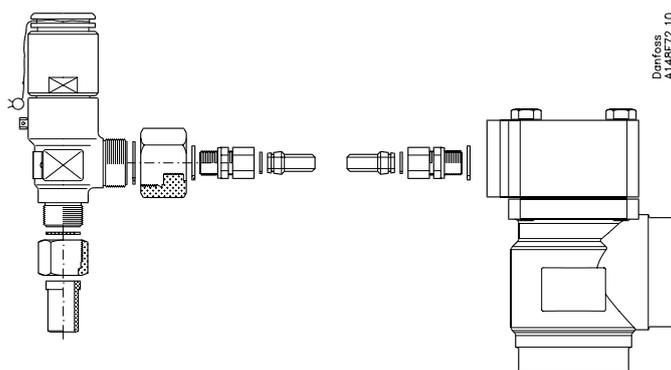

Fig. 5
When the spindle is turned counter clockwise (as viewed from the spindle end) to the front seated position, port number one (1) is fully open and port number two (2) is closed. (Fig. 5)
The POV pilot operated safety valve is used in conjunction with the BSV back pressure independent safety valve and is specifically designed for protecting compressors against excessive pressure (fig. 5).
If welding fittings are applied, these should be dismantled during the welding process (fig. 5). Only materials and welding methods, compatible with the flange material, must be welded to the flange.
Fig. / Abb. 5